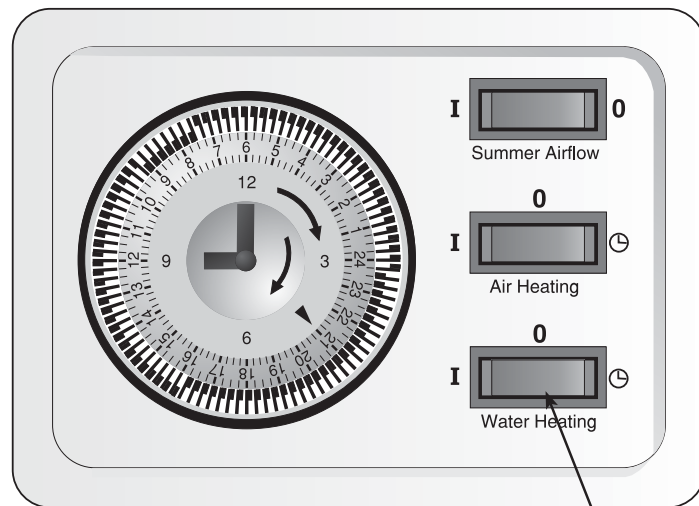

FIGURE 2
- 4.1 The integral time control (Figure 2) enables continuous or timed operation of your air heater, and water heater (if fitted), either individually or together.